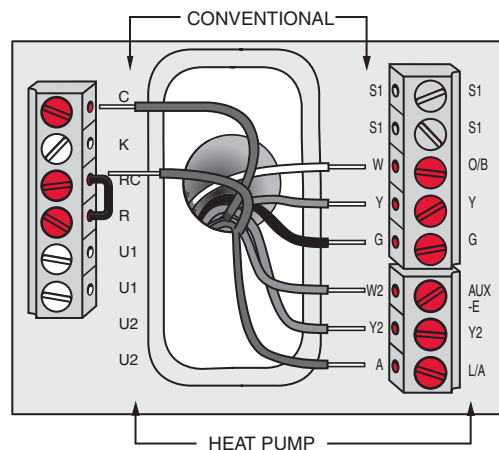

Fig. 19. Thermostat wired directly to equipment.
1. Refer to Fig. 19. See Table 10 on page 122 for terminal designations and "Wiring" beginning on page 121 for more information.